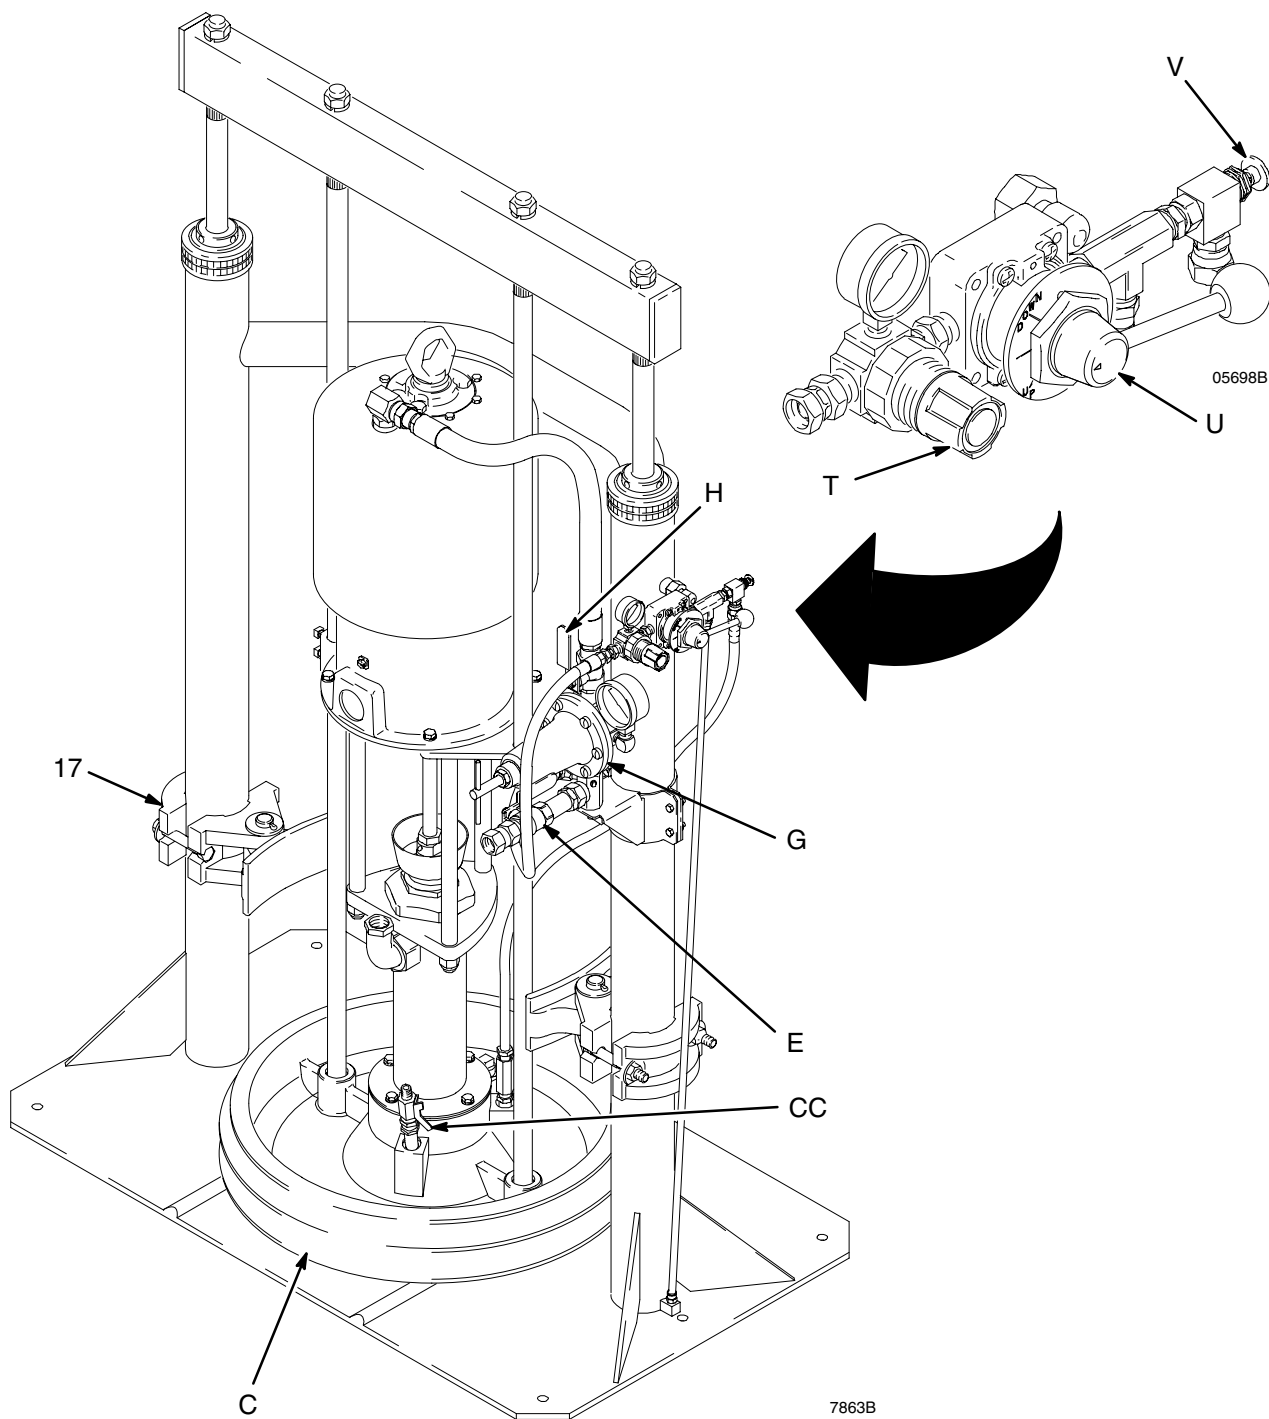

Fig. 3
1. Refer to Fig. 3. Close all air regulators and air valves.
2. Open main air bleed valve (E) and set ram air regulator (T) to 2.8 bar, 0.26 MPa (40 psi).
3. Move director valve (U) to UP, and raise ram to full height.
4. Set full drum of fluid on ram base. Slide drum against tube stop and center under ram plate (C). Use drum clamps (17) to center, hold, and properly align drum with ram.
1. Refer to Fig. 3. Be sure the pump air regulator (G) is closed. Then set the ram air regulator (T) to about 3.5 bar, 0.35 MPa (50 psi). Set the director valve (U) to DOWN.
3. Keep the director valve (U) set to DOWN while the pump is operating.